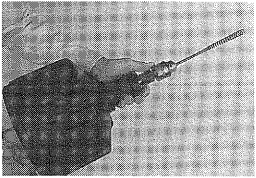

Figure 3
- Finally, tighten the chuck. **(see Fig.3)**